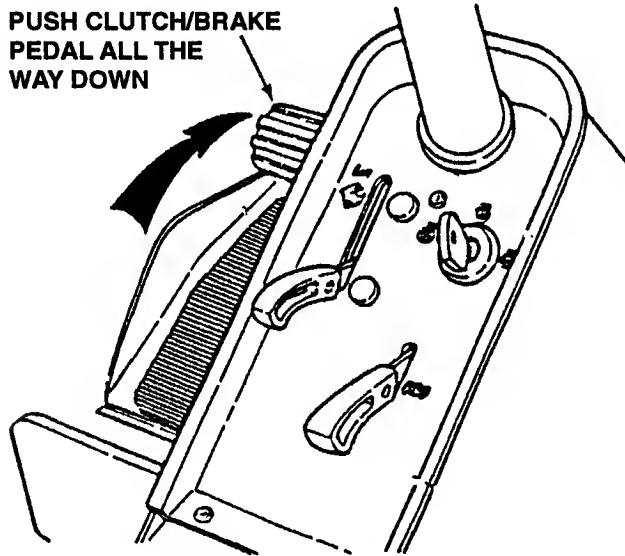

FIGURE 2.15
- Release park brake by pushing down on the Clutch/Brake Pedal to release park brake lever. See Figure 2.15.